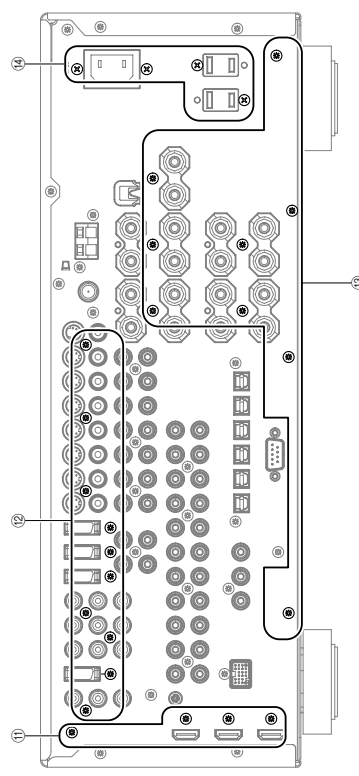

Fig. 5
- Remove 4 screws (⑪). (Fig. 5)
- Remove 6 screws (⑫). (Fig. 5)
- ⑪のネジ4本を外します。(Fig. 5)
- ⑫のネジ10本を外します。(Fig. 5)
- Remove 11 (U, C, T, A, B, G, E models) / 13 (R, L models) screws (⑬) and 4 (U, C, R, T, A, B, G, E, L models) / 2 (K model) screws (⑭). (Fig. 5)
- ⑬のネジ9本、⑭のネジ4本を外します。(Fig. 5)